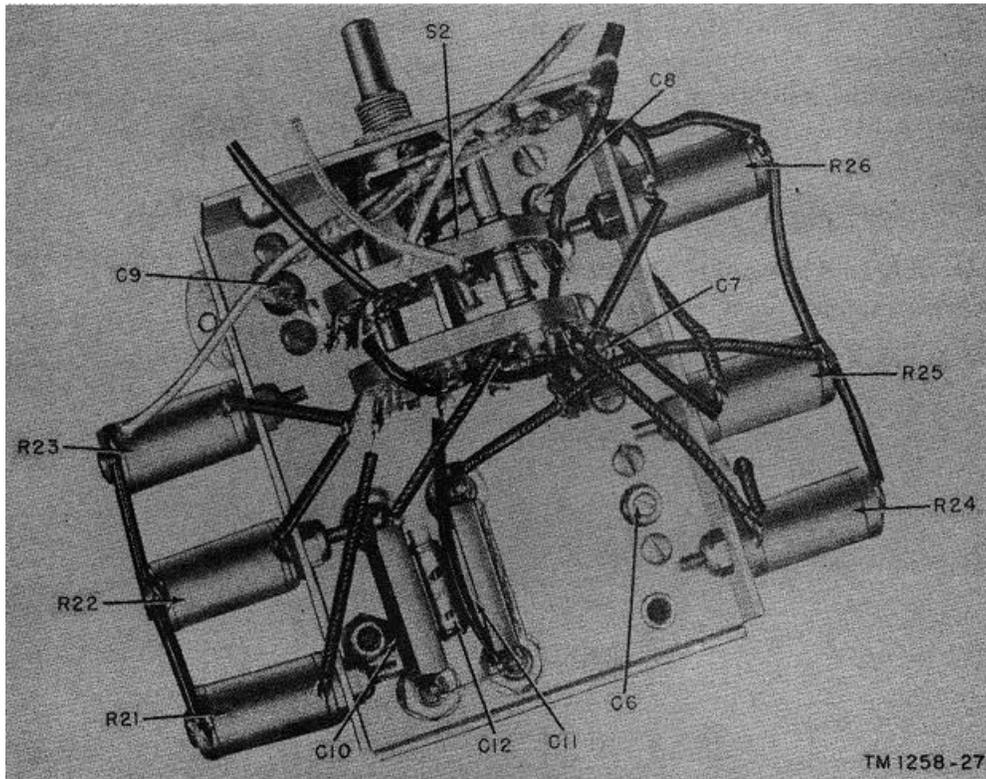

Figure 30. Modulation switch assembly, top view.
- (3) Swing the assembly clear of the front panel.
- (4) Unsolder the leads from the part (figs. 30 and 31). Remove and replace the part.